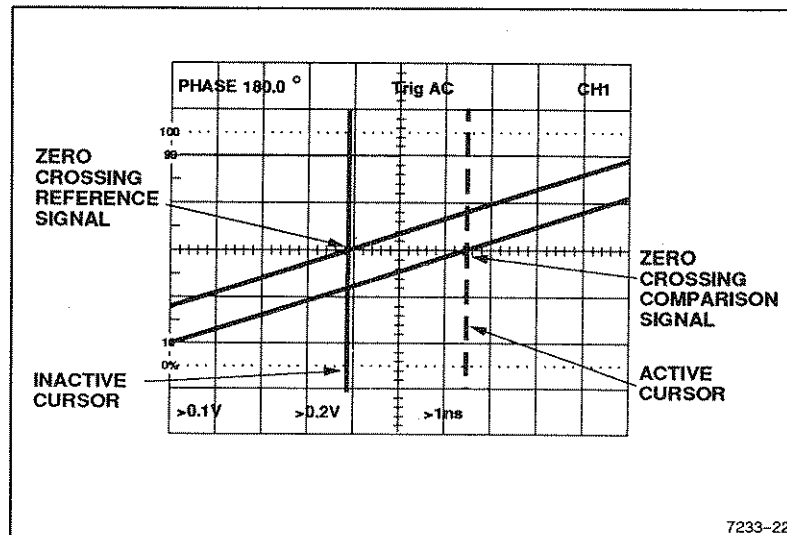

Figure 6-10. Small-angle phase difference.
4. Align the other cursor with the second comparison zero-crossing (see Figure 6-10).